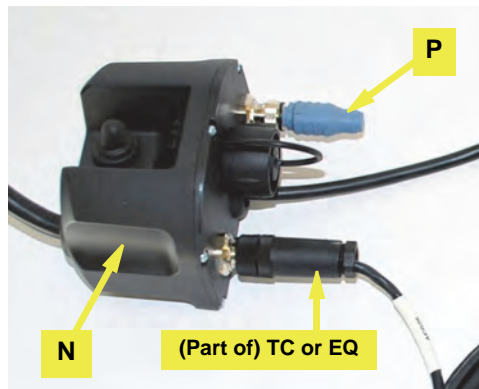

Figure 6d: CAN harness and terminator connected to junction box
e. Connect the threaded 5-pin connector on the CAN bus harness **TC** (eDriveTC) or **EQ** (eDriveX) to either of the threaded connectors on the junction box **N**. Connect the CAN bus terminator **P** to the other threaded connector on the junction box (Figure 6d).